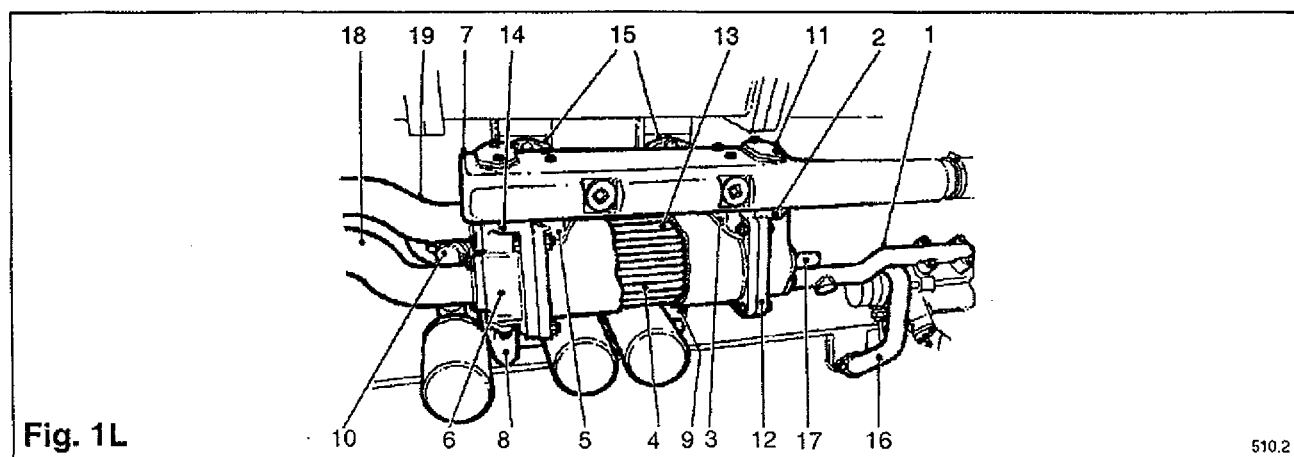

Fig. 1L
The oil cooler comprises a tube stack enclosed within a cast aluminium body and sealed by ported end covers with 'O' rings. The covers are dowelled and bolted (see Fig. 1L) to the body.
Coolant delivered from the water pump, passes from the front end of the coolant/oil transfer pipe to ports (11) in the cover (12), and passing through the tubes (13) to the cover (6) exits from ports into the rear end of the coolant/oil transfer pipe, and thence via the inlet pipes (15) into the water jackets. The arrangement of the oil cooler, filters and header for 'B' bank is the same as for 'A' bank (see Fig. 1L).